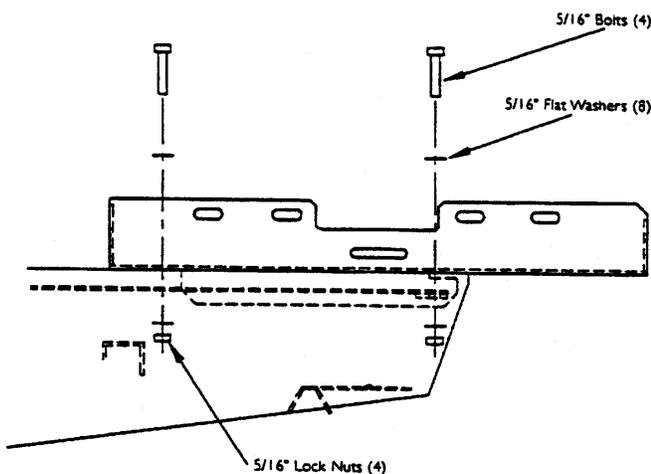

Figure 4
2. Orient SmartBox® cradle as shown in Figure 4.